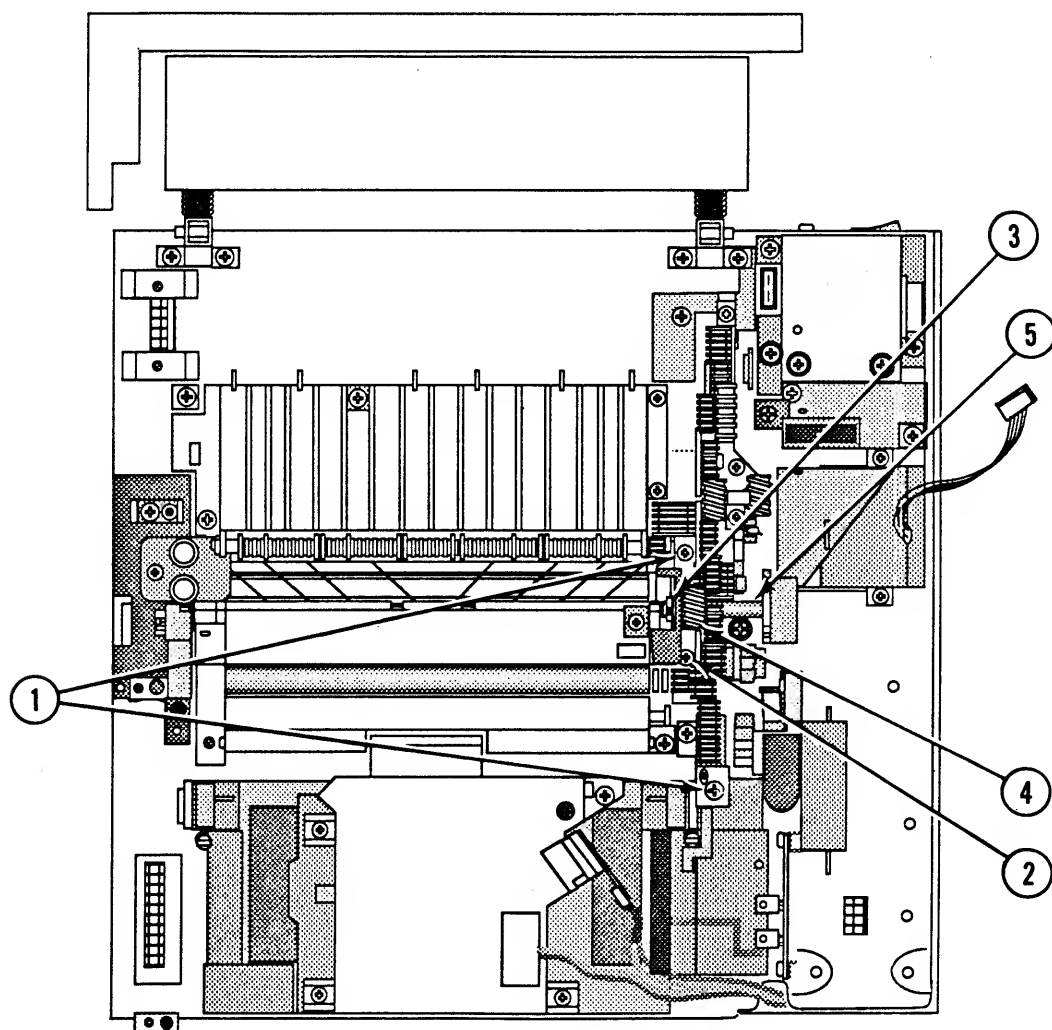

FIGURE 48
2. Remove the two Phillips self-tapping screws (Figure 48, #1) and the one Phillips machine screw (Figure 48, #2) that secure the paper feed drive assembly to the main body block.
3. Using the flatblade screwdriver, remove the C-ring (Figure 48, #3) that keeps the drum drive shaft in place.
5. Remove the paper pickup gear (Figure 48, #4) from the printer.
3. Slide the drum drive shaft into the bearing (Figure 48, #5) and replace the C-ring at the end of the shaft.